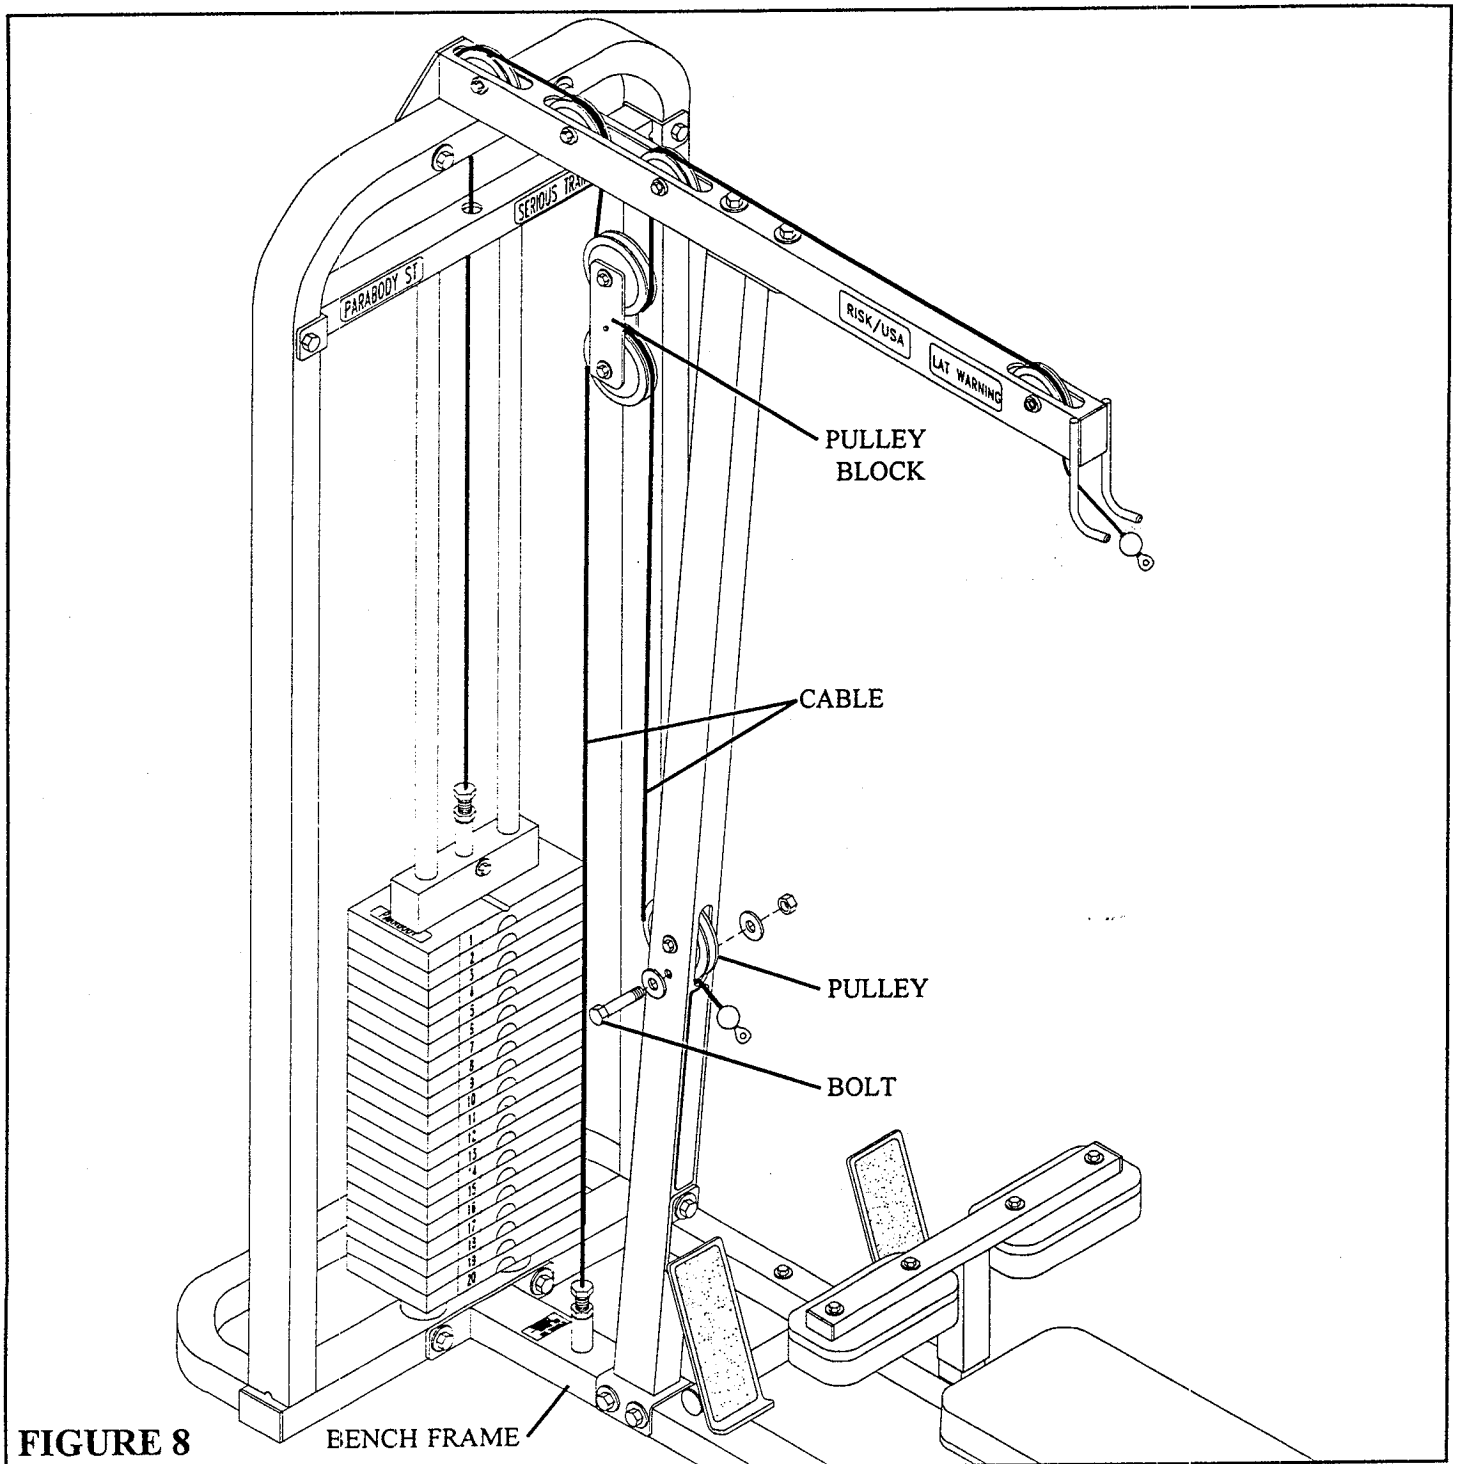

FIGURE 8
- A. Remove the BOLT, WASHERS, and LOCK NUT below the PULLEY in UPRIGHT. See FIGURE 8.
- B. Insert the threaded end of CABLE (part #6671001) under the PULLEY in UPRIGHT and around the bottom PULLEY of the PULLEY BLOCK . See FIGURE 8.